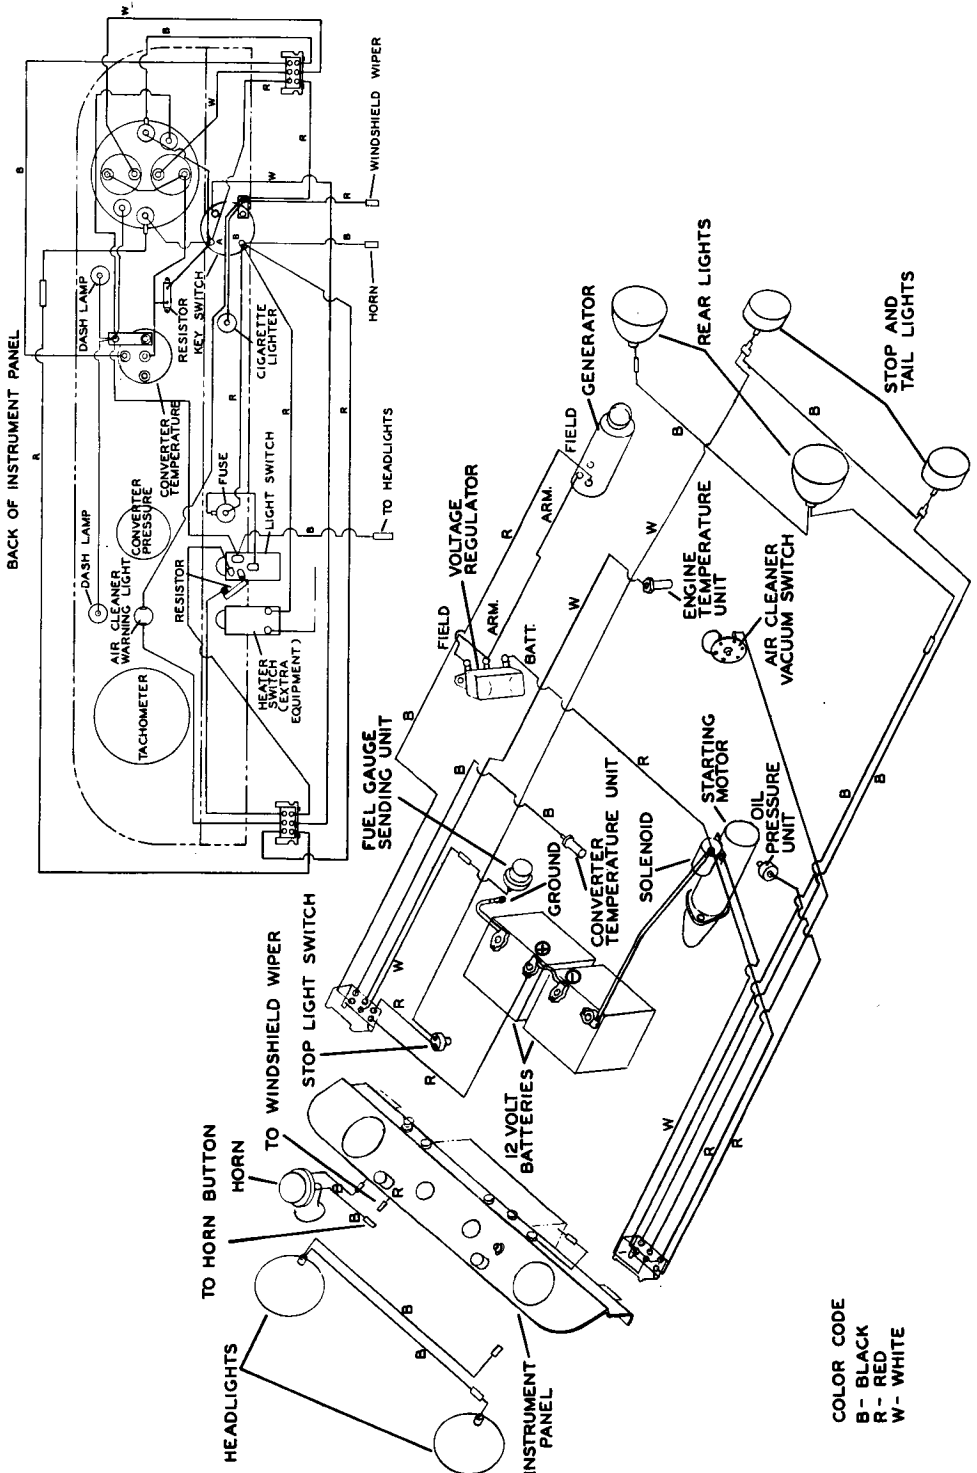

Figure 67. Wiring Diagram
2. Check all connections. Using the Wiring Diagram, Figure 67, as a guide, remove each wire individually and clean any paint, rust or corrosion from the connections. Repair or replace any defective wiring. Make sure the connections are tight when replacing wires.